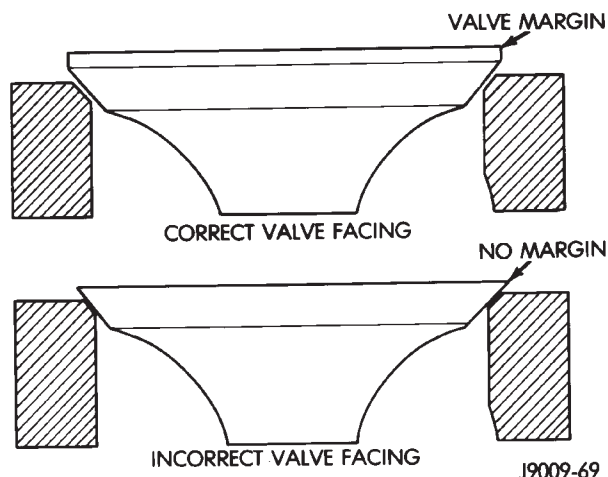

Fig. 64 Valve Facing Margin
(1) Use a valve refacing machine to reface the intake and exhaust valves to the specified angle.
(2) After refacing, a margin of at least 0.787 mm (0.031 inch) must remain (Fig. 64). If the margin is less than 0.787 mm (0.031 inch), the valve must be replaced.